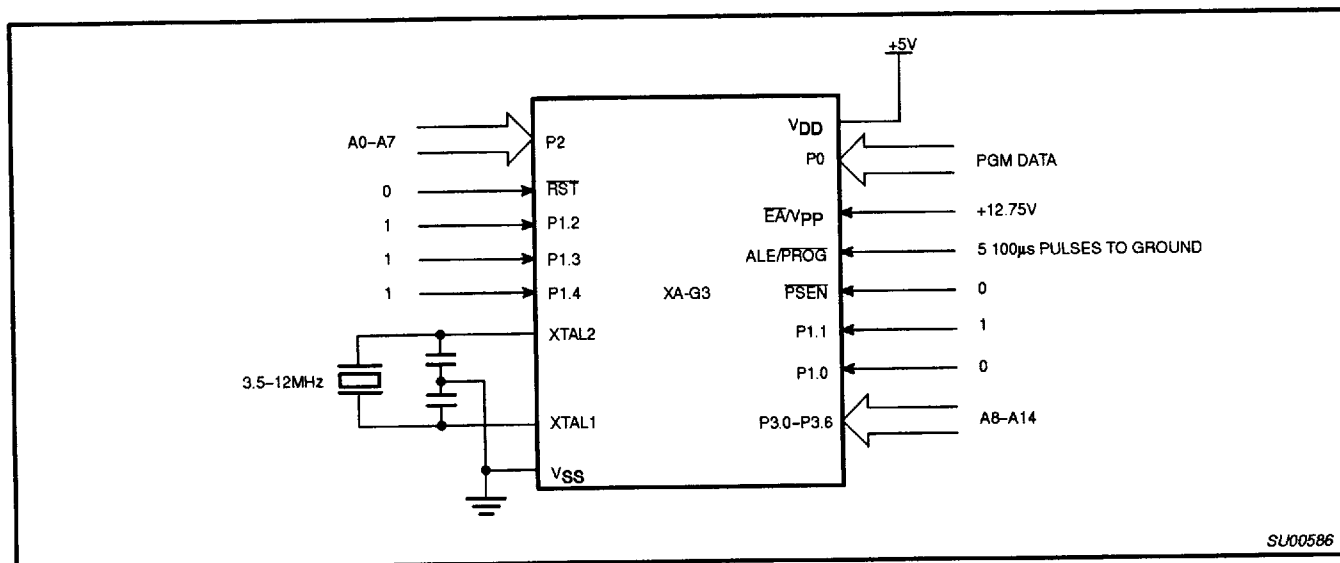
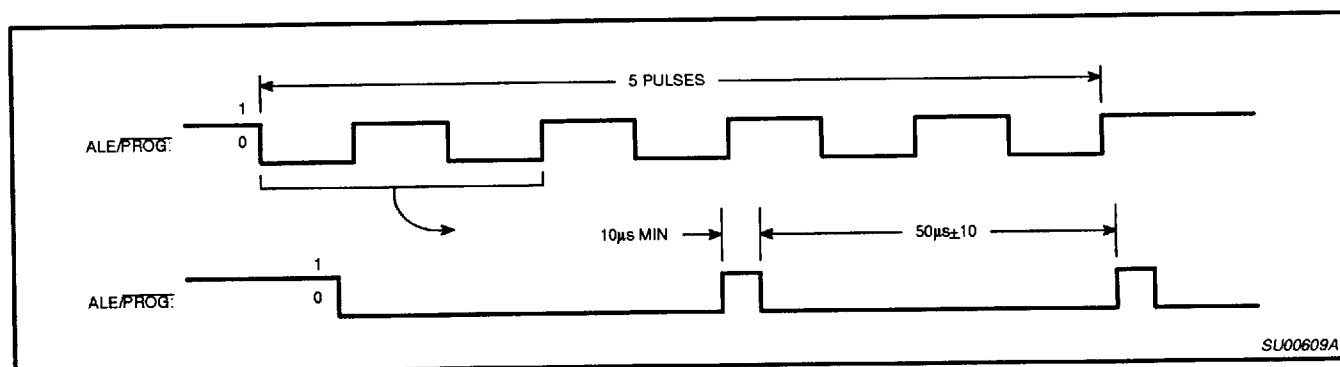
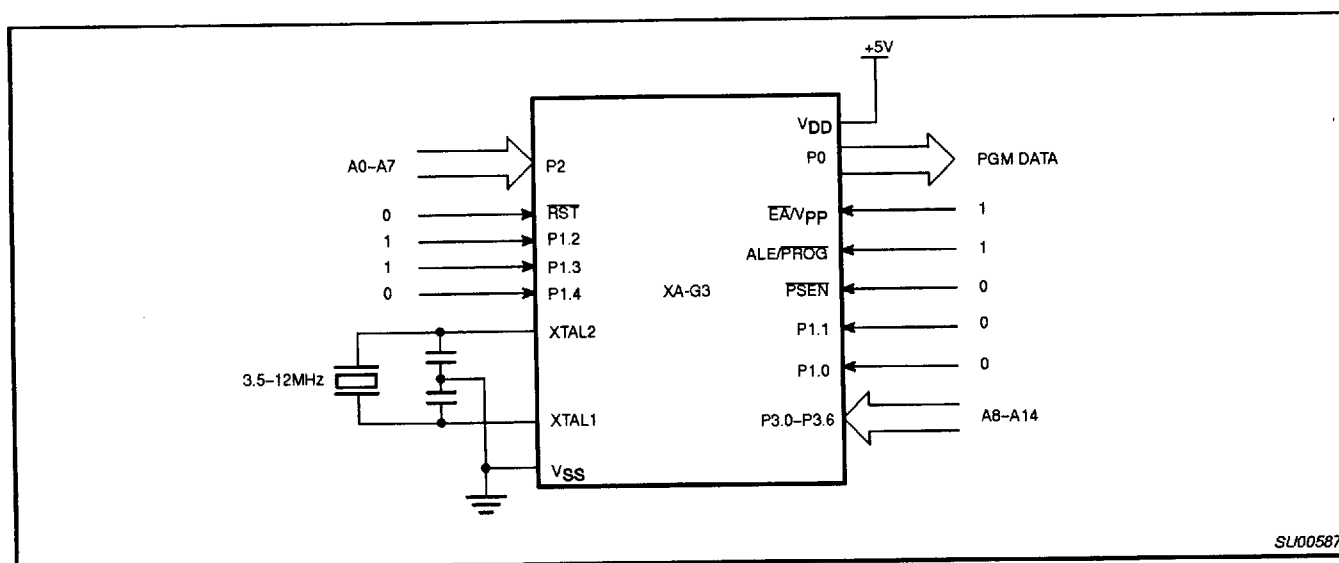

Figure 31. Programming Configuration for XA-G3
Figure 32. PROG Waveform
Figure 33. Program Verification for XA-G3
Table 6 shows the logic levels for reading the signature byte, and for programming the code memory and the security bits. The circuit configuration and waveforms for quick-pulse programming are shown in Figures 31. Figure 33 shows the circuit configuration for normal code memory verification.
The setup for microcontroller quick-pulse programming is shown in Figure 31. Note that the XA-G3 is running with a 3.5 to 12MHz oscillator. The reason the oscillator needs to be running is that the device is executing internal address and program data transfers.
The address of the EPROM location to be programmed is applied to ports 2 and 3, as shown in Figure 31. The code byte to be programmed into that location is applied to port 0. RST, PSEN and pins of port 1 specified in Table 6 are held at the 'Program Code Data' levels indicated in Table 6. The ALE/PROG is pulsed low 5 times as shown in Figure 32.
If security bits 2 and 3 have not been programmed, the on-chip program memory can be read out for program verification. The address of the program memory locations to be read is applied to ports 2 and 3 as shown in Figure 33. The other pins are held at the 'Verify Code Data' levels indicated in Table 6. The contents of the address location will be emitted on port 0.
* FOR PROGRAMMING CONDITIONS SEE FIGURE 32.
FOR VERIFICATION CONDITIONS SEE FIGURE 33.